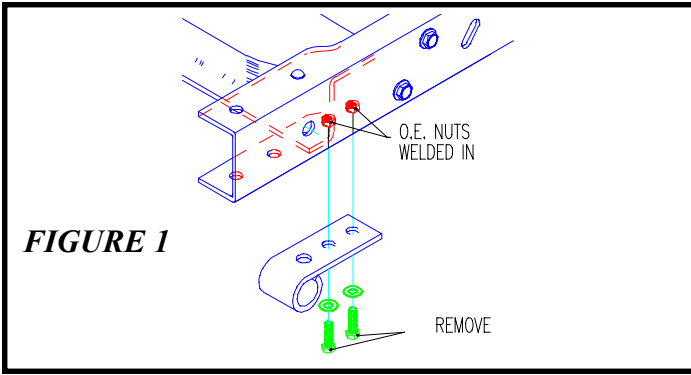

FIGURE 1
1. Remove the front frame mounts as shown in *figure 1*.